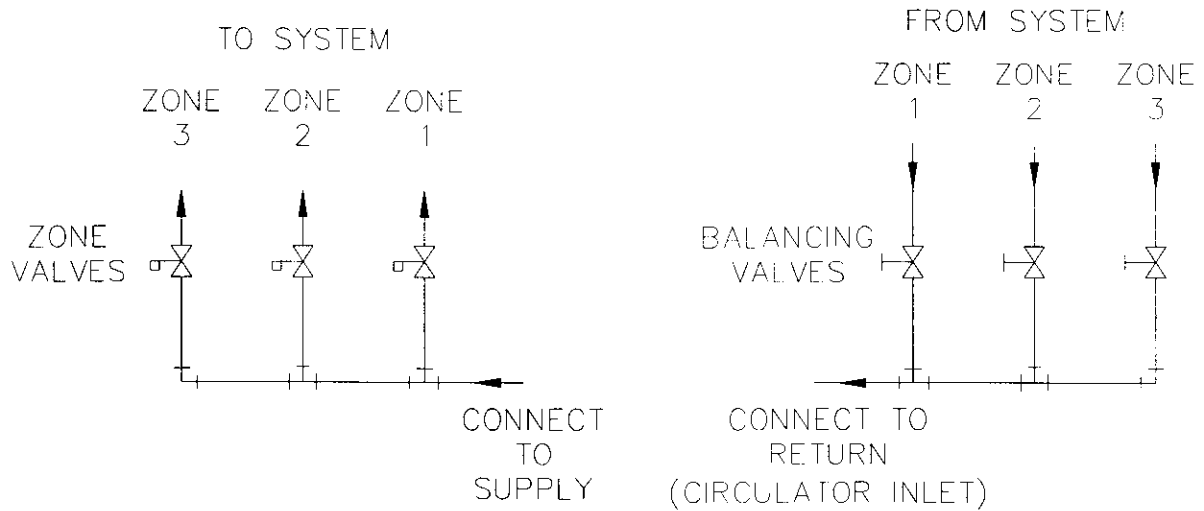

Figure 9: Zone Piping with Zone Valves
1. See Figures 9 and 10 for basic zoned system layouts.